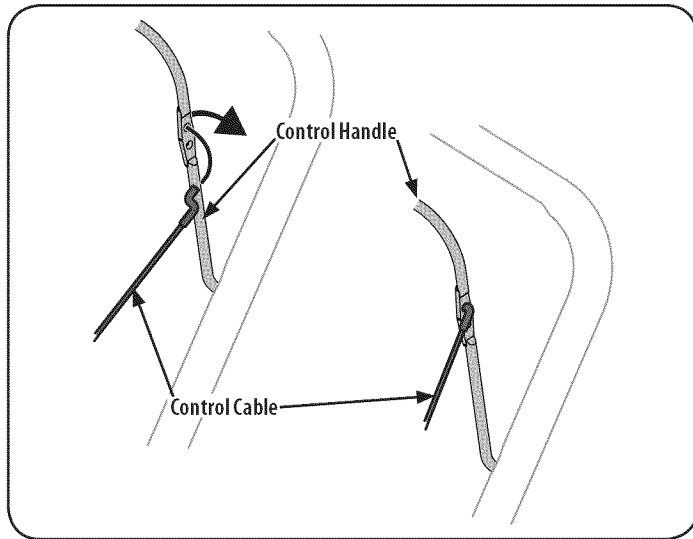

Figure 15
1. The upper hole in the control handle provides for an adjustment in cable tension. To adjust, disconnect the end of control cable from the bottom hole in the control handle and reinsert it in the upper hole. Insert the cable from the outside as shown in Figure 15.